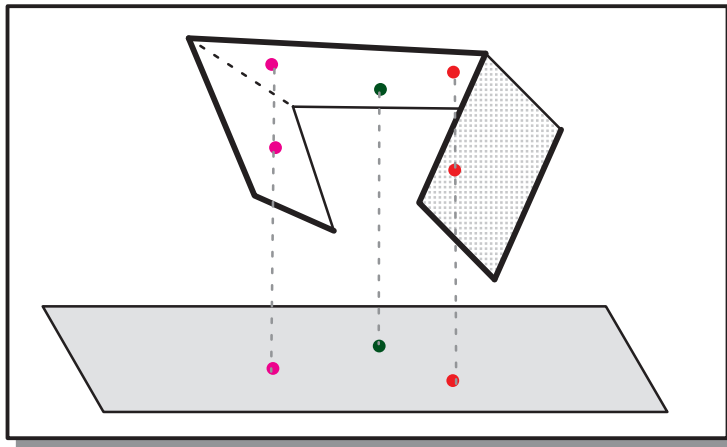

Figure 3-2. Illegal Double-Valued Covering Surface
- “Double-valued” covering surfaces cannot be created. That is, no two points on the covered surface can project to the same point on the initial surface. For example, in Figure 3-2, some points on the top of the surface project to the same points on the plane as points on the folded under “flaps” (a few sample points are highlighted). Another example of such an illegal circuit is the seam of a baseball—the “lobes” are folded under the top, requiring a double-valued covering surface. However, if a sphere were used as the initial surface in this case, the double-valued covering could be avoided.